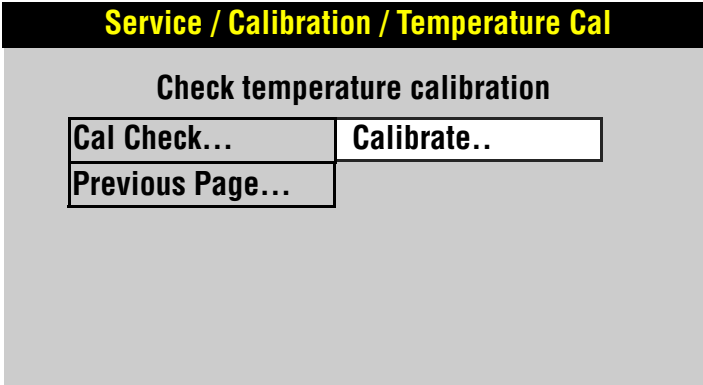

Figure 6.4—Temperature calibration selection
- 4. Select the Temperature Cal from the Service /Calibration menu. The screen shown in Figure 6.4 appears.